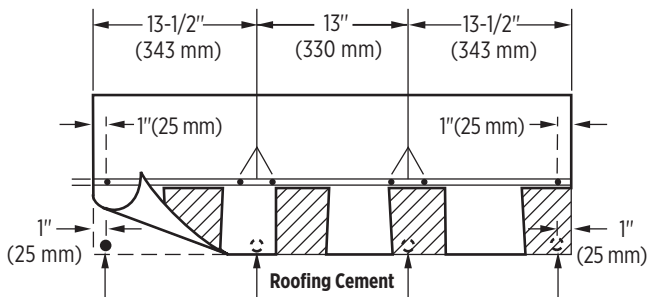

Figure 12-4: Use six nails and four spots of asphalt roofing cement on steep slopes.
**IMPORTANT:** When “six nailing” a full shingle, follow the nail placement pattern shown in figure 12-4.